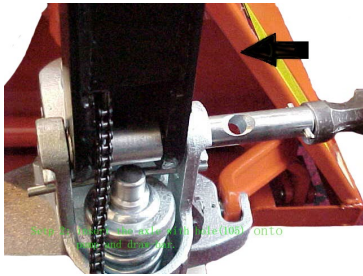

Fig. 2
**2.1** Insert the draw-bar onto the pump piston (303), then use a hammer to insert the axle with hole (105) into the hydraulic pump and draw-bar **from the right to left**. (See fig. 2 ).